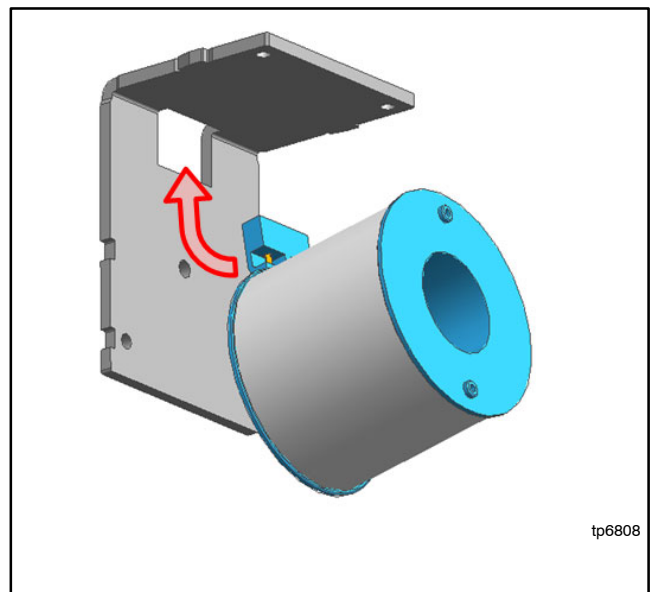

Figure 7-36 Coil Terminal In Steel Frame
1. Insert the terminal block section of the coil into the opening in the steel frame. See Figure 7-36.